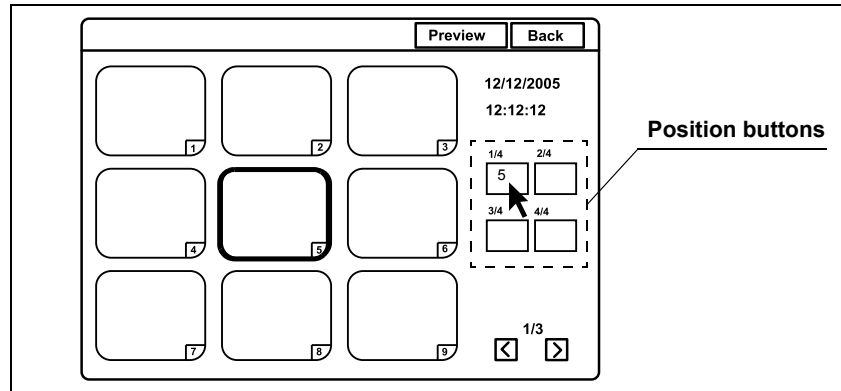
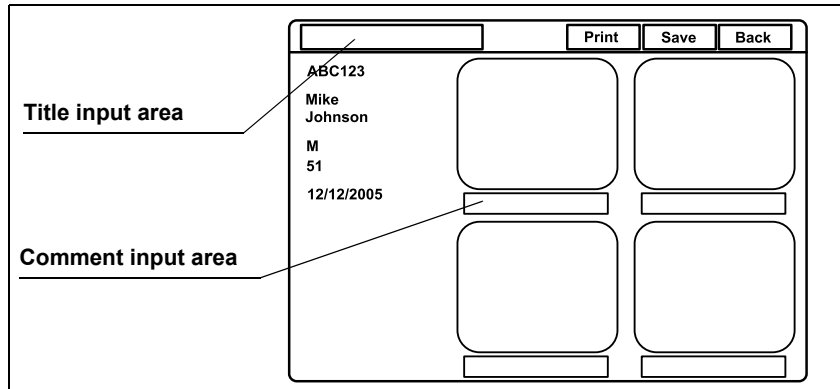

Figure 5.71
Figure 5.72
- Click one of the position buttons on the screen. The number of the selected image appears at the position button and the selected image is edged with a thick frame in the color of the position button (see Figure 5.71).
1. Click "Preview" on the annotation selection screen after selecting the images (see Figure 5.71). The message "Please wait" is displayed on the monitor, then the annotation preview screen appears (see Figure 5.72).